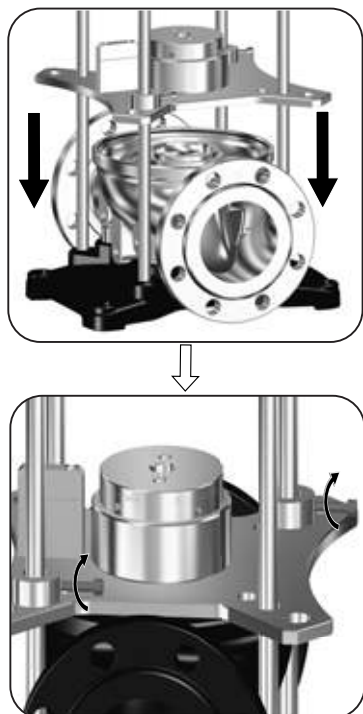

Fig. 21 Service tool H2 for mounting on pump base
1. Fit service tool B in the end of the pump shaft (51).
2. Attach approved lifting equipment to service tool B and lift the chamber stack out of the pump base (6).
4. Install service tool H2 securely on the pump base (6). See fig. 21 for correct positioning and installation.